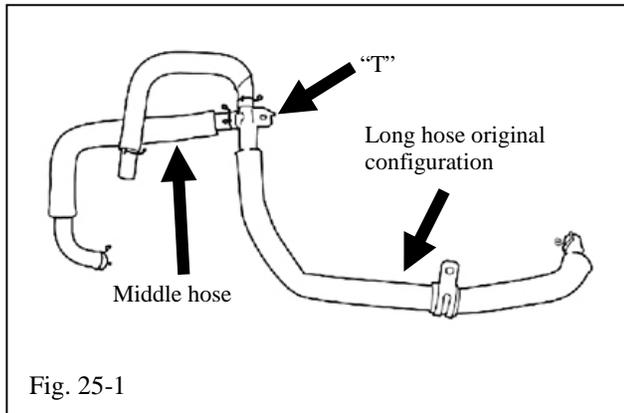

Fig. 24-1
- (a) Unplug and remove all 8 coils (Fig. 24-1).